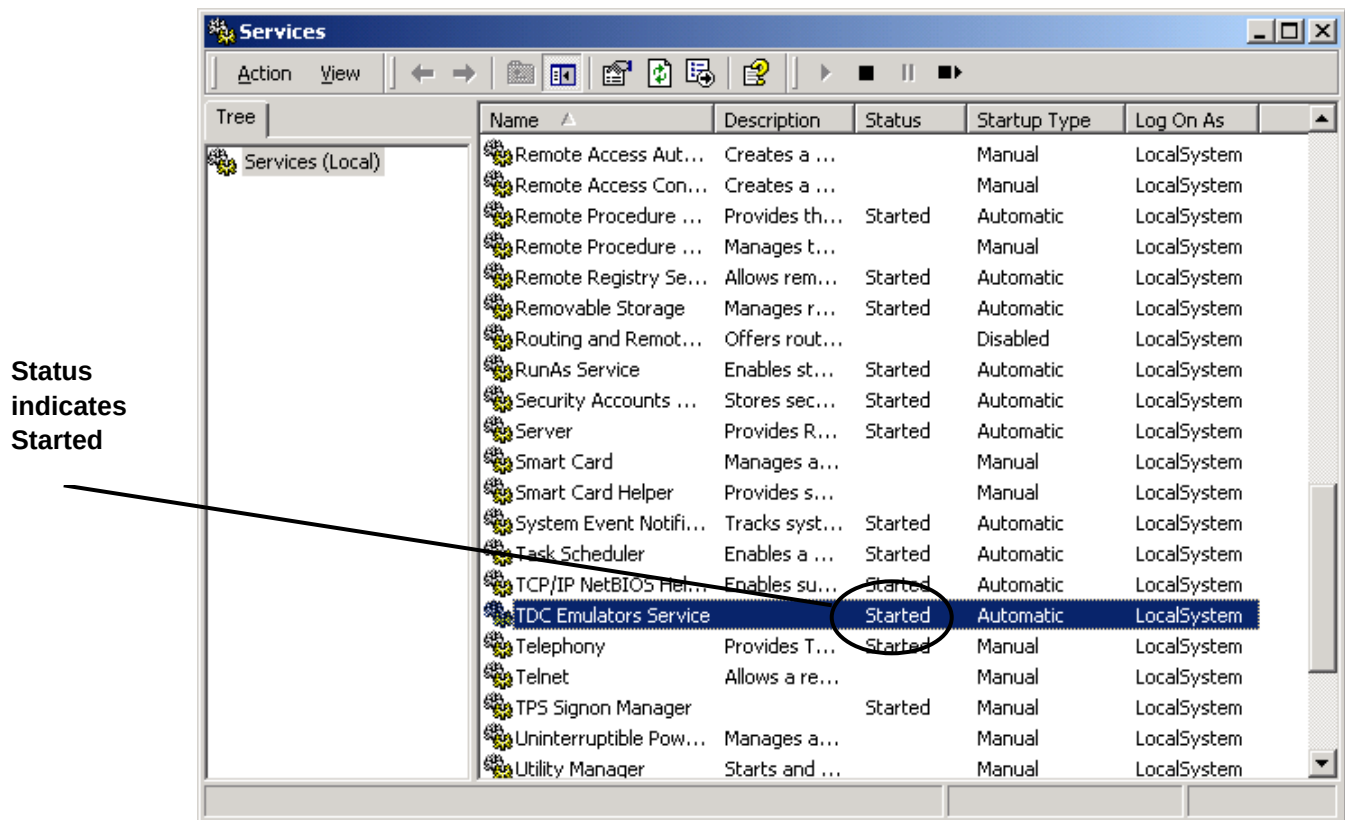

Figure 2.4-3 TDC Emulators Service Started
2.4.18	A message box appears indicating that the service is being started. This will take about 10-15 seconds. The Services display should appear as in Figure 2.4-3 below.